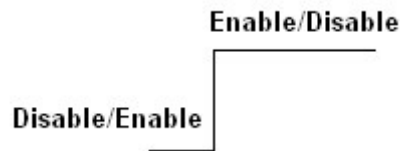
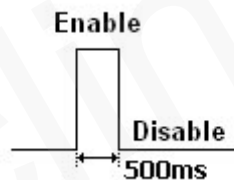
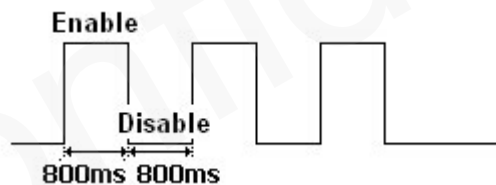

Figure 2: Wave Shape 1
Figure 3: Wave Shape 2
Figure 4: Wave Shape 3
- ✧ <Output1 Status>: Used only for the wave shape 1 as shown in **Figure 2** to set the final status of the output port.
- ✧ <Duration>: Please refer to **Figure 2**, **Figure 3** and **Figure 4**. Unit is 100ms.
- ✧ <Toggle Times>: Please refer to **Figure 2**, **Figure 3** and **Figure 4**.
- ✧ <CUT Relay Status>: Used only for the wave shape 1 as shown in **Figure 2** to set the final status of the CUT relay output port.